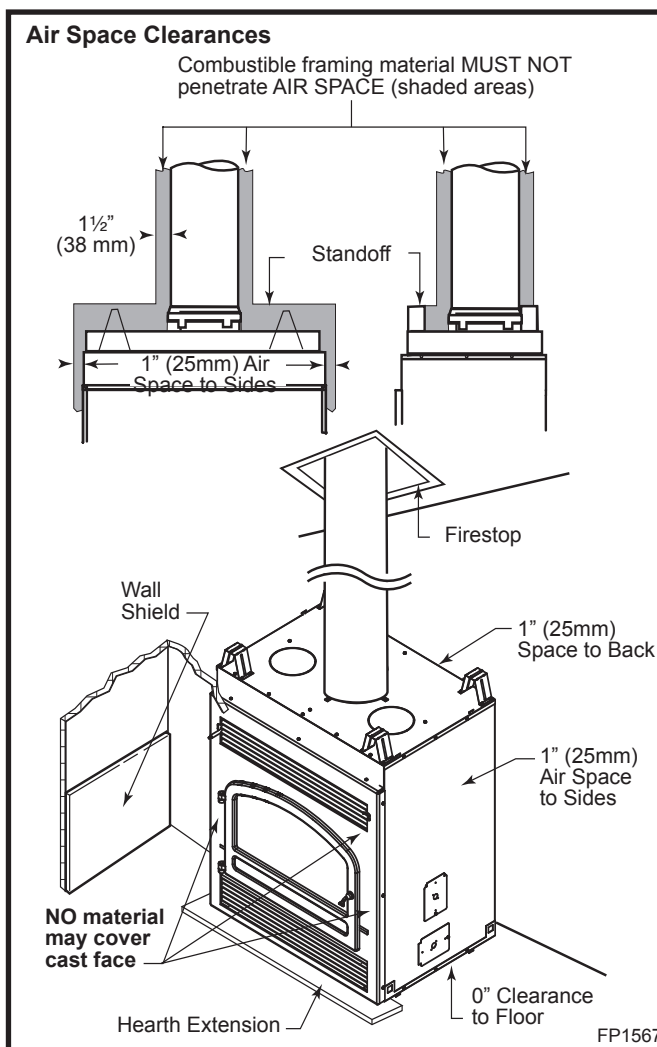
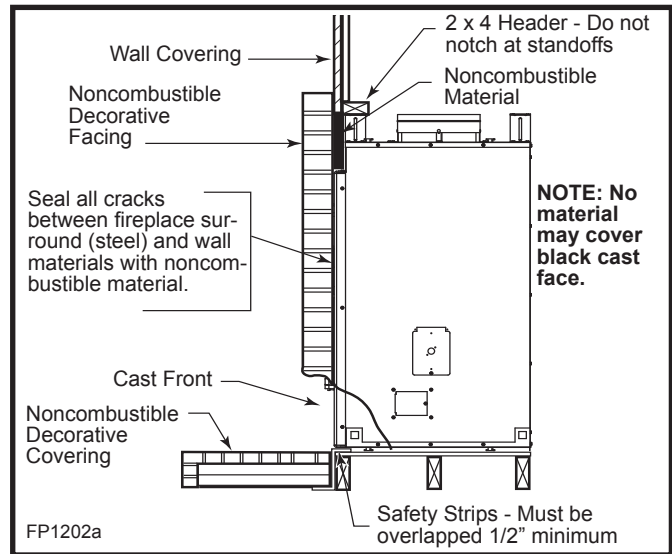

Fig. 19 Minimum clearances to combustibles.
Fig. 24 Sealing gaps.
**CAUTION:** All joints between the finished wall and the fireplace surround (steel front) must be sealed with noncombustible material to prevent cold air leakage into the room. (Fig. 19)
Adjacent combustible side walls that are within minimum dimensions shown in Figure 24 of the fireplace opening must be protected with CFM Corporation Wall Shield Model SP40 or a specifically built wall shield described in Figure 19.
The special wall shield design described in Figure 19 is an alternate method of adding protection to side walls and can be used in place of the SP40 with the same wall clearances specified for the SP40. Rt must = 1.85 minimum.
Secure the hearth extension to the floor to prevent shifting, using trim molding or other similar means at three (3) outer edges. Seal crack between the fireplace hearth and hearth extension with a noncombustible material. (Figs. 24 and 25)
**WARNING: Hearth extension must be installed in accordance with Figure 24. Top of hearth extension must be level with bottom of fireplace.**